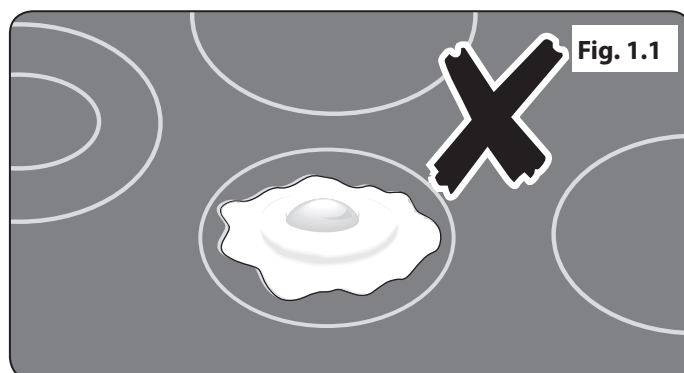

Fig. 1.1
- Only certain types of glass, glass-ceramic, earthenware or other glazed containers are suitable for hotplate cooking; others may break because of the sudden change in temperature. **NEVER** cook directly on the hob surface (**Fig. 1.1**).